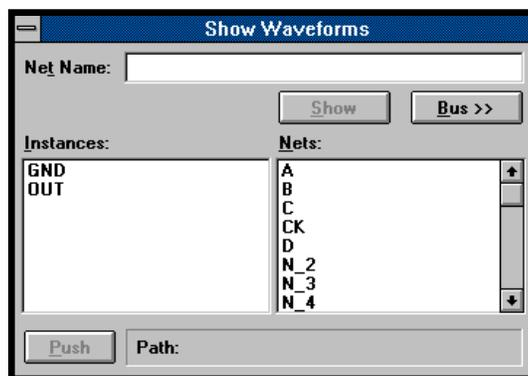

Figure 1-15. The Show Waveforms Dialog Box
34. To see the waveforms, select **Edit** ⇒ **Show** from the Waveform Viewer menu bar. A Show Waveforms Dialog Box (Figure 1-15) appears.